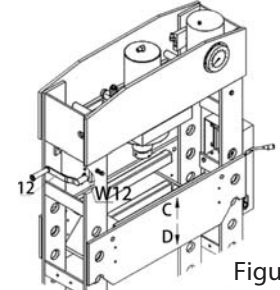

Figure 6
11. Insert the winch handle (#12) to the shaft (W12). (Figure 6).